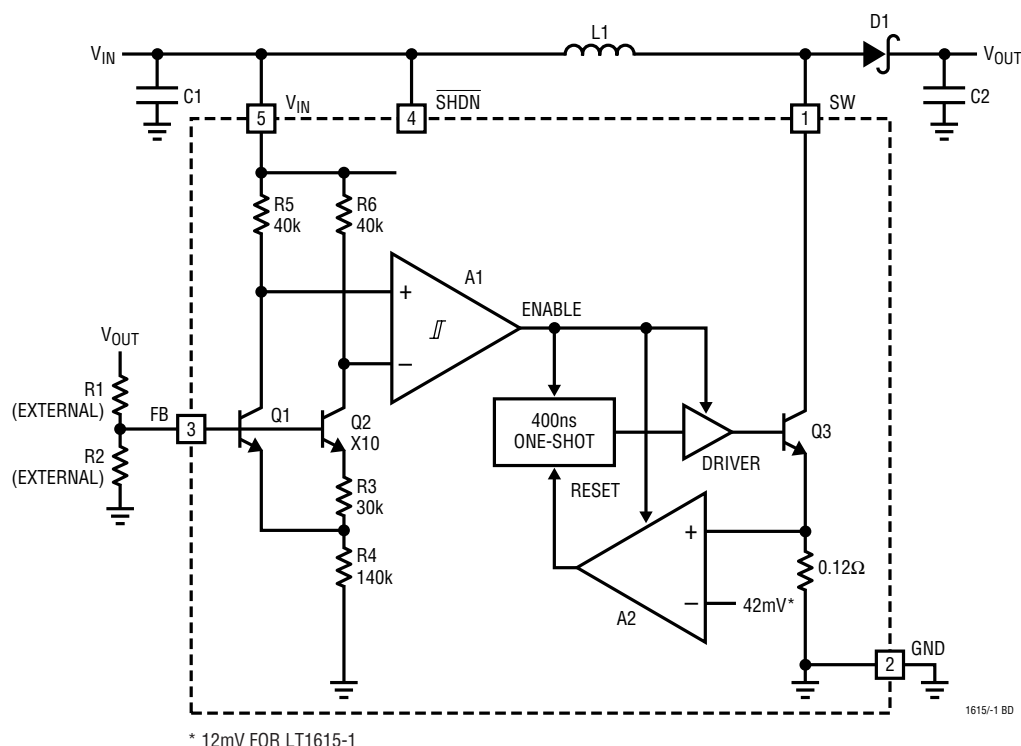

Figure 1. LT1615 Block Diagram
**FB (Pin 3):** Feedback Pin. Set the output voltage by selecting values for R1 and R2 (see Figure 1):
The LT1615 uses a constant off-time control scheme to provide high efficiencies over a wide range of output current. Operation can be best understood by referring to the block diagram in Figure 1. Q1 and Q2 along with R3 and R4 form a bandgap reference used to regulate the output voltage. When the voltage at the FB pin is slightly above 1.23V, comparator A1 disables most of the internal circuitry. Output current is then provided by capacitor C2, which slowly discharges until the voltage at the FB pin drops below the lower hysteresis point of A1 (typical hysteresis at the FB pin is 8mV). A1 then enables the internal circuitry, turns on power switch Q3, and the current in inductor L1 begins ramping up. Once the switch current reaches 350mA, comparator A2 resets the one-shot, which turns off Q3 for 400ns. L1 then delivers current to the output through diode D1 as the inductor current ramps down. Q3 turns on again and the inductor